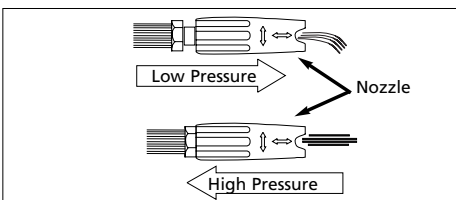

Figure 13 – Adjusting nozzle for pressure
3. Slide nozzle to low pressure position (See Figure 13.) and apply detergent so that it thoroughly covers the cleaning surface.